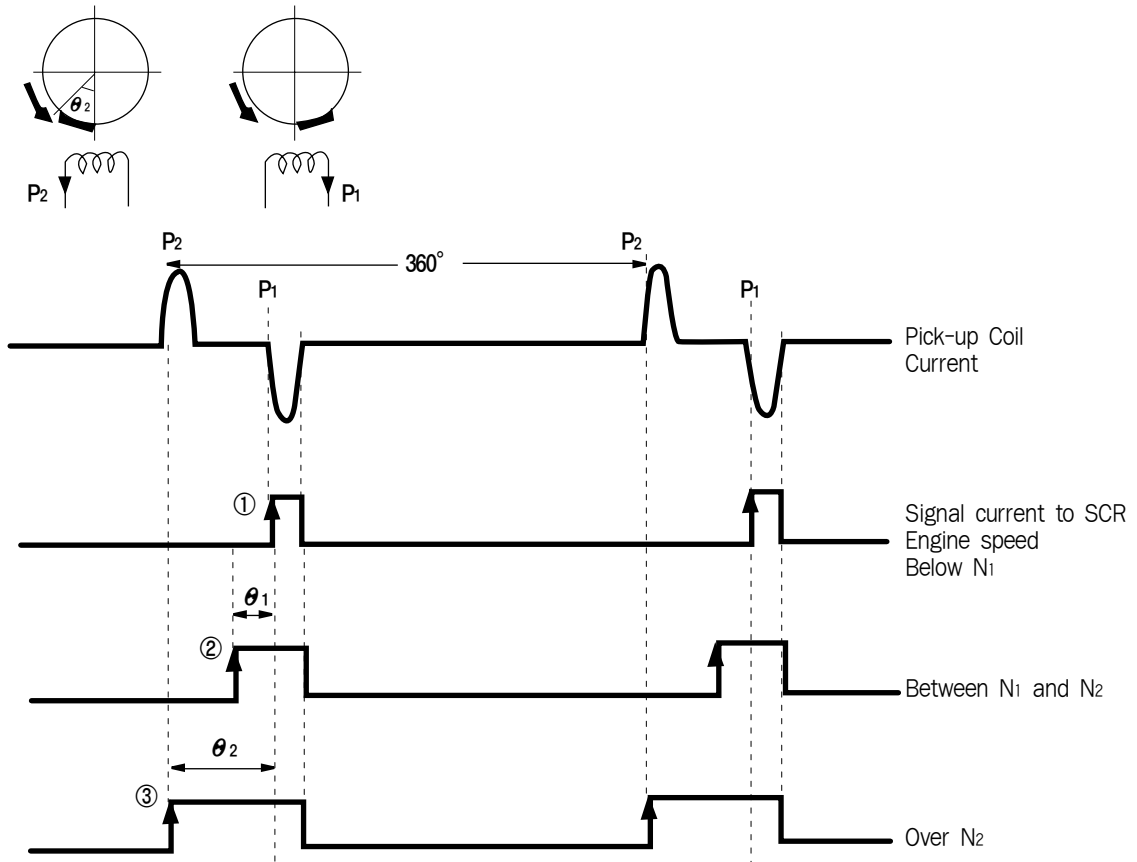

Fig. 2
When the engine is running slowly ( $N_1$  r/min or less Fig. 3), control by the ignition timing control circuit is executed so that the ignition signal is generated at the time ①(Fig. 2) when the current ( $P_1$ ) is generated and is sent to the (SCR). When the engine speed increases ( $N_1$  to  $N_2$  r/min), control is executed so that the ignition signal ② is generated between ( $P_1$ ) and ( $P_1$ ) according to the engine speed. At this time, the advance angle is ( $\theta_1$ ).